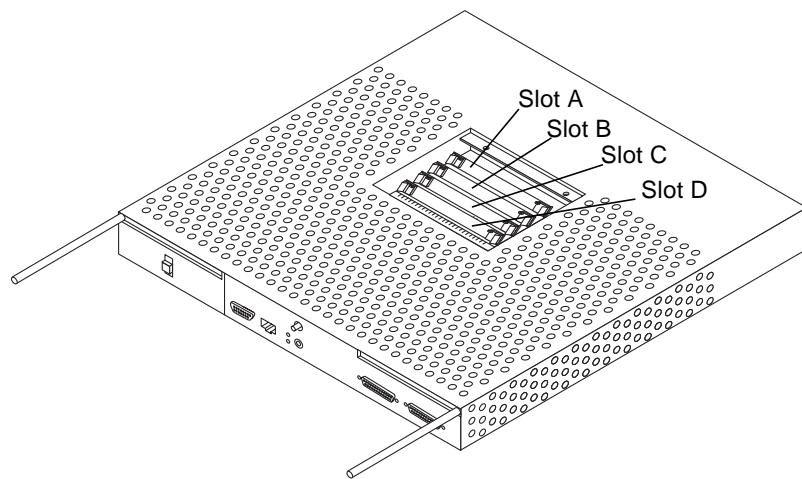

FIGURE 3-9 A1000 Controller—Empty SIMM slots
b. Remove the SIMMs from slot B and slot A (FIGURE 3-9).
6. Replace the 8 Mbyte SIMMs into slot A and slot B (FIGURE 3-9).
7. Remove the two 32 Mbyte SIMMs from the antistatic packaging. Install them into slot C and slot D (FIGURE 3-9).